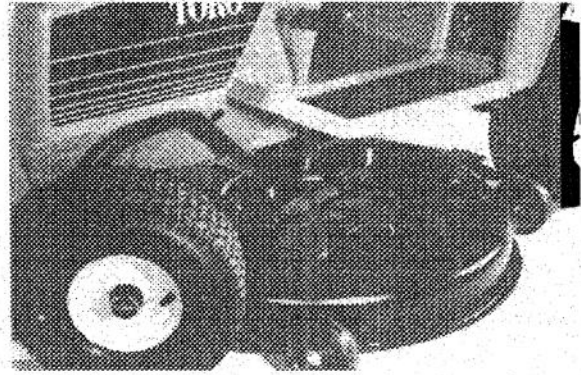

Figure 24
4. Turn tractor front wheels fully to the right, turn the cutting unit so the rear wheels face the right side of the tractor and pull the unit out from under the machine (Fig. 24).